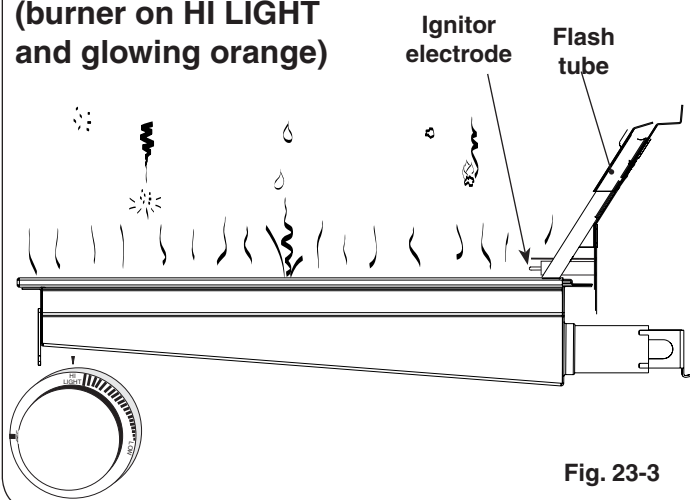

Fig. 23-3
- DO NOT place food on the cooking grid until the IR burner glows orange (Fig. 23-3). Drippings are heated and evaporate instead of sticking to and impairing burner function.